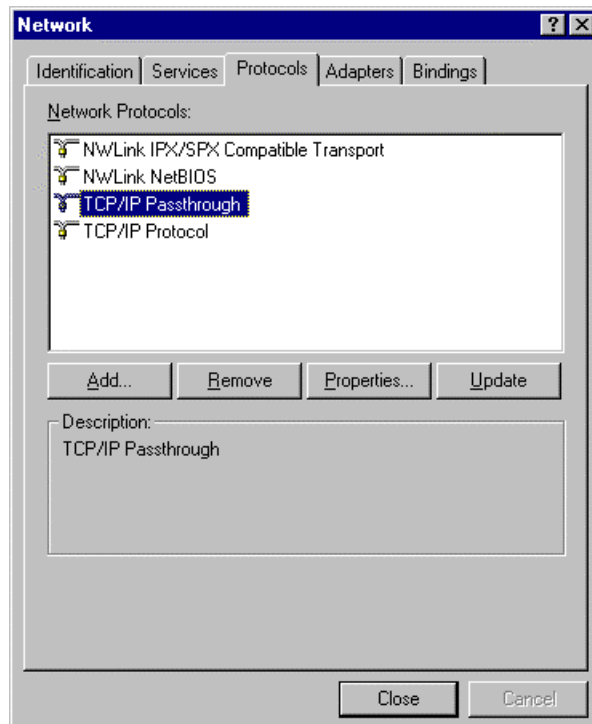

Figure 16-18. TCP/IP Passthrough Protocol
1. From the Network ICON in the Windows NT Control Panel, verify that TCP/IP Passthrough is installed as a protocol (Figure 16-18).